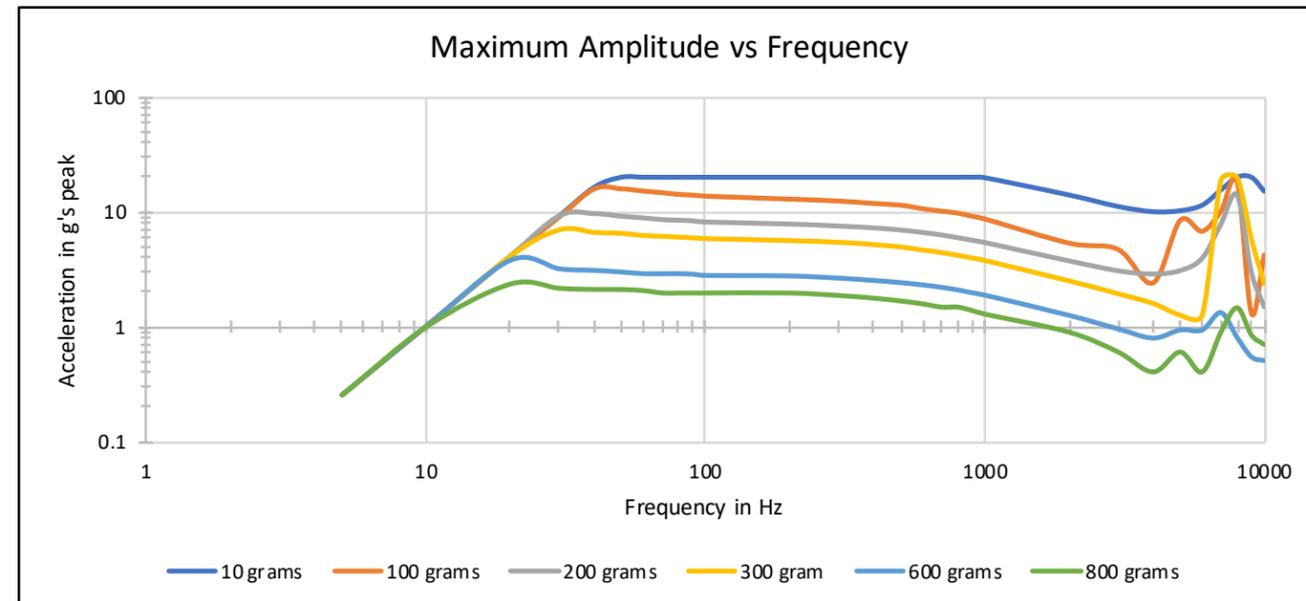

Figure 1 Maximum Weight Recommendations in Grams
- See Figure 1, Maximum Amplitude vs Frequency chart, on page 6 for maximum weight recommendations. Limited at lower frequencies to 0.1 inch (2.54mm) Peak displacement.